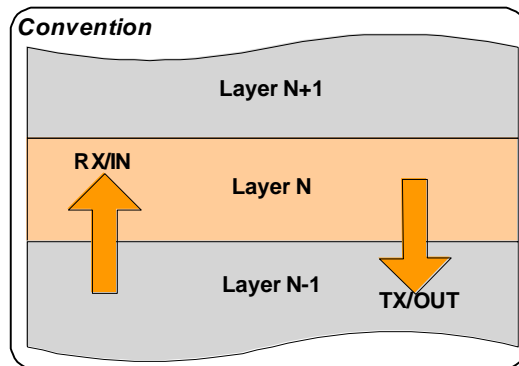

Figure 65 - RX and TX Convention
All statistics presented by Dataradio follow a convention presented in Figure 65. Layer n statistics are given with respect to the layer immediately below it: layer $n-1$. RX (Receive) or IN refers to data received by layer n from layer $n-1$. Transmit (TX) or OUT refers to data transmitted by layer n to layer $n-1$.